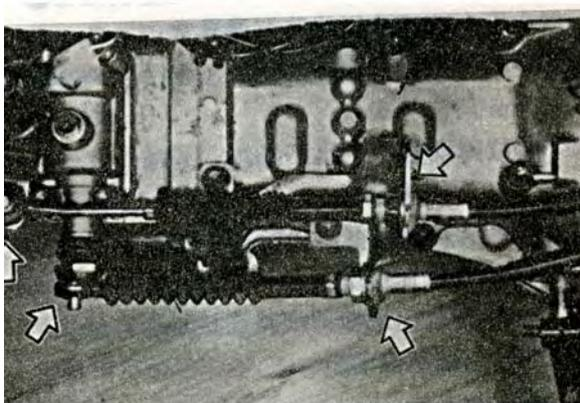

Fig. 4-39
- (6) Disconnect flexible cable of odometer from transmission;
- (7) Remove water inlet and outlet hoses of the heater.
- (8) Disconnect the high tension cables from ignition coil.
- (9) Disconnect leads from water temperature gauge and oil pressure switch;
- (10) Remove air filter;
- (11) Disconnect fuel pump and fuel line, disconnect fuel level gauge;
- (12) Disconnect leads from alternator;
- (13) Open fuel tank lid to reduce fuel gas pressure, and then close it;
- (14) Remove inlet and outlet hoses from fuel rail;
- (15) Remove acceleration cable from throttle body;
- (16) Remove shift cable from transmission(Fig. 4-39);
- (17) Lift the vehicle with lifter;
- (18) Remove guard panel under engine;
- (19) Drain out coolant and transmission oil;
- (20) Remove clutch cable from clutch pedal and clutch arm;
- (21) Remove propeller shaft;
- (22) Remove muffler from outlet manifold;
- (23) Remove clips for in and out hoses from block;
- (24) Remove in and out hoses from radiator
- (25) Remove in and out hoses from heater;
- (26) Remove vacuum power hoses from inlet manifold;